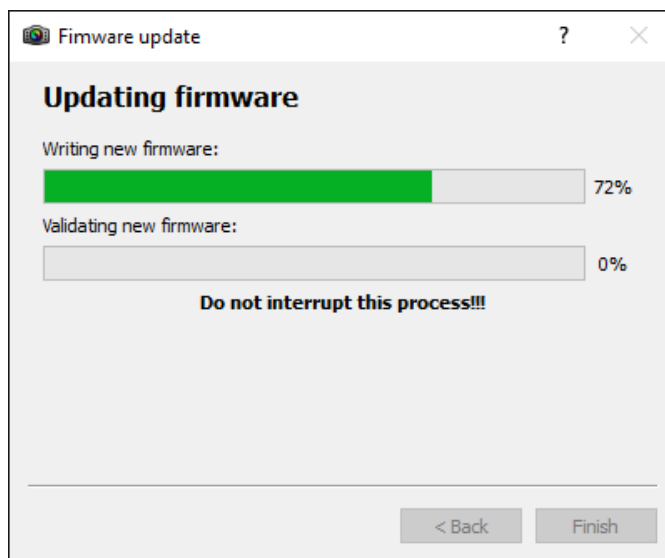

Figure 10 : Firmare Update process window
9. The next window displays the initiated firmware update. The firmware update process displayed in the first progress bar and the firmware validation displayed in the second, as shown in Figure 10.